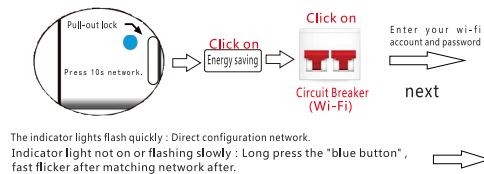

figure 6
- 8.1 Direct scan figure 6 Installation.